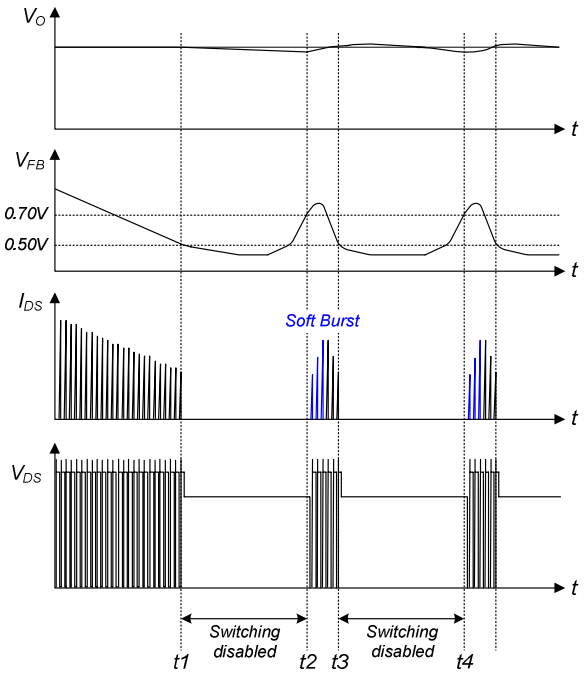

**Figure 22. Output Short Protection**
**4.3. Output Short Protection (OSP):** If the output is shorted, steep current with extremely high di/dt can flow through the SenseFET during the minimum turn-on time. Such a steep current brings high-voltage stress on drain of SenseFET when turned off. To protect the device from such an abnormal condition, OSP is included. It is comprised of detecting  $V_{FB}$  and SenseFET turn-on time. When the  $V_{FB}$  is higher than 2V and the SenseFET turn-on time is lower than  $1.2\mu s$ , the FSGM0565R recognizes this condition as an abnormal error and shuts down PWM switching until  $V_{CC}$  reaches  $V_{START}$  again. An abnormal condition output short is shown in Figure 22.